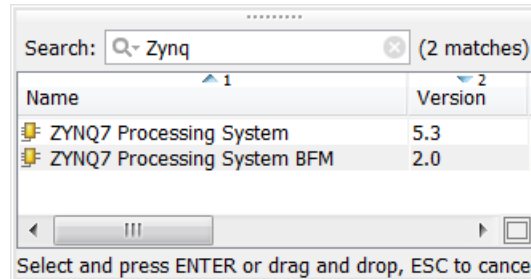

Figure 2-3: Search IP with ZYNQ7 Processing System
2. Select the **Add IP** option, and a Search box opens where you can search for, and select the **ZYNQ7 Processing System**, shown in Figure 2-3.